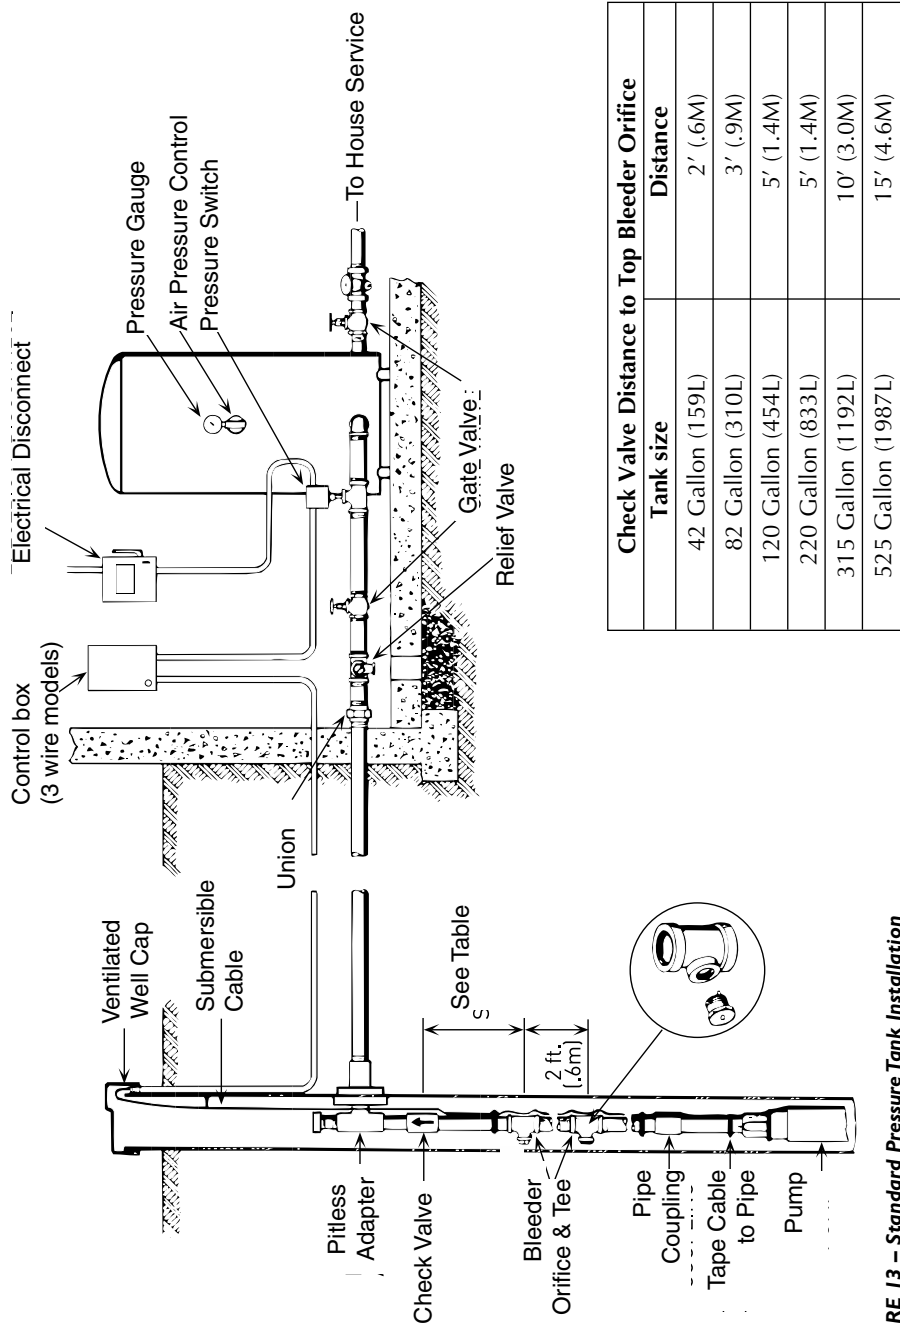

FIGURE 13 – Standard Pressure Tank Installation
- If a standard air over water pressure tank is used, install two bleeder orifices about 2' (.6M) apart as shown in Figure 13, Page 9. Orifices will automatically charge the tank with air. See Figure 13 to determine orifice location.
See Figure 13, Page 9 for piping connections to standard pressure tank and for correct distance of bleeder orifices from pressure tank.